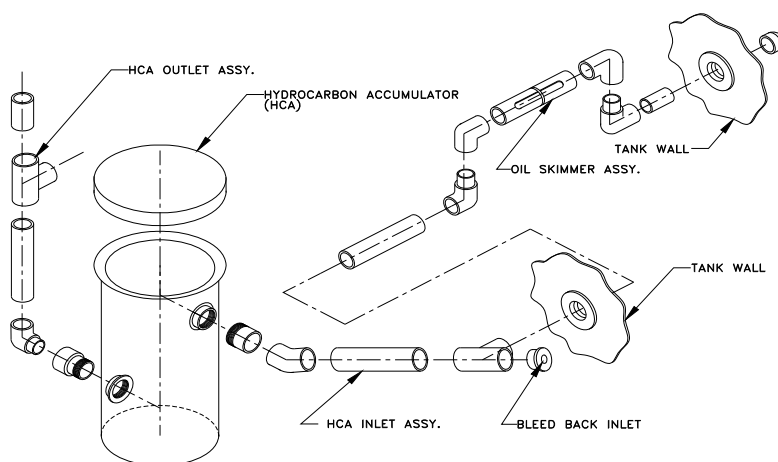

Figure HCA.1
- B. The **OIL SKIMMER ASSEMBLY** is factory installed inside the first compartment (above the Inclined Plates) of the Series I as shown in Fig. HCA.1. Do **Not Glue** these fittings. Assemble the Inlet and Outlet **HYDROCARBON ACCUMULATOR ASSEMBLIES** as shown in Fig. HCA.1.
- C. Plumb the **CFC BLEED BACK** from the 1/4" fitting on top of the UV/O³ Catalytic Chamber using part of the supplied 1/4" poly hose and lead into the **BLEED BACK INLET** on the Hydrocarbon Accumulator. (Fig. HCA.1)
- C. Plumb the Polishing Filters **SOLIDS BLEED VALVES** (bottom hose valves on housings) using part of the supplied 3/8" poly hose and lead back to the **BLEED BACK INLET** on the Hydrocarbon Accumulator. (Fig. HCA.1)